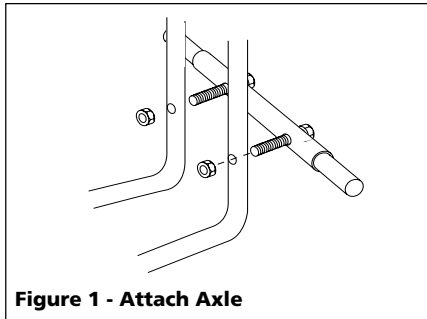

Figure 1 - Attach Axle
2. Stand pump upright and hold steady. Attach axle to cart legs by inserting pre-assembled bolts into holes in cart legs. Secure with one 1/4" - 20 nut on each bolt. Use 7/16" wrench to tighten (See Figure 1).